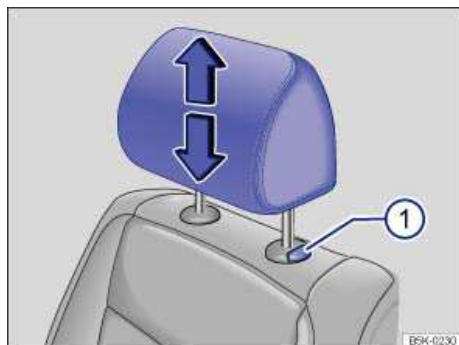
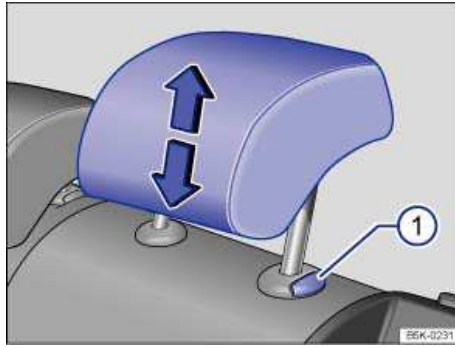

Fig. 60 Adjusting the front head restraints.
Fig. 61 Adjusting the rear head restraints.
- Push the head restraint up in the direction of the arrow or down when the button ⇒ fig. 60 \(1\) or ⇒ fig. 61 \(1\) is pressed ⇒ ⚠.